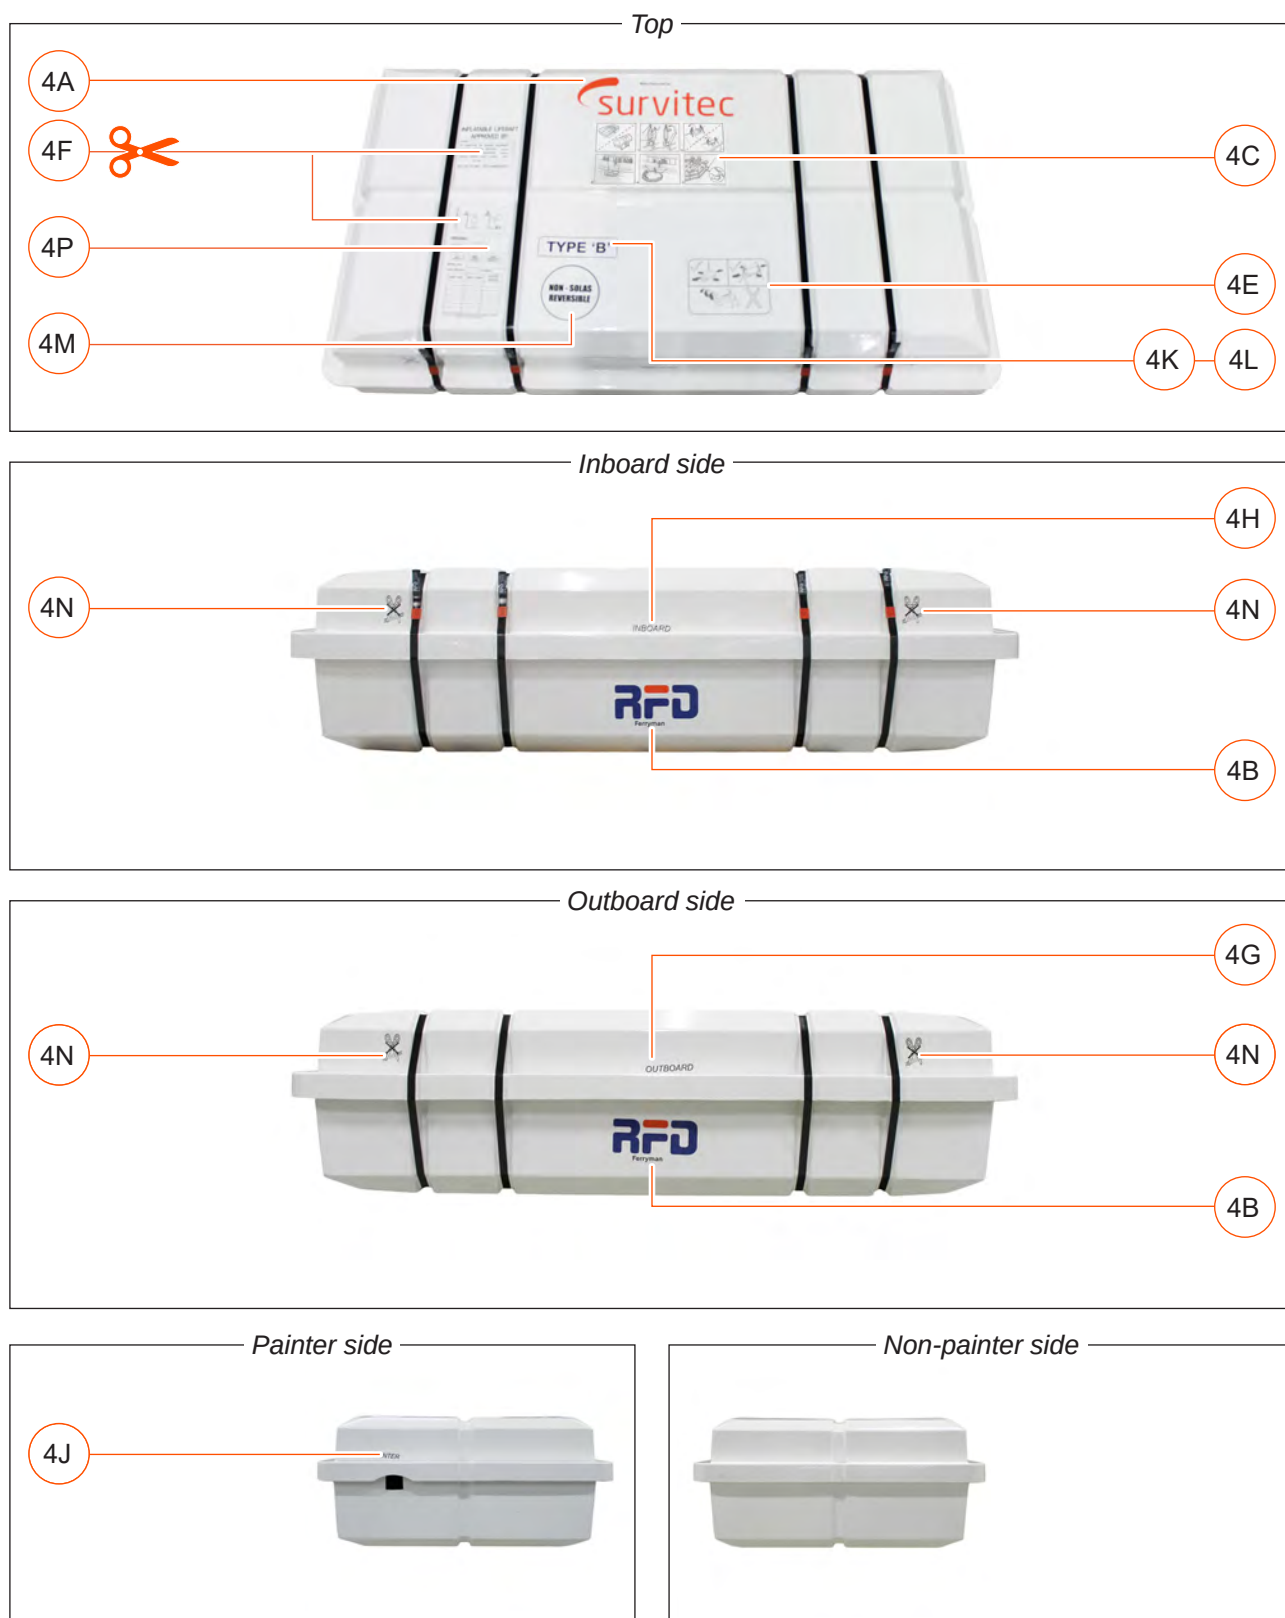

Figure 34
- Mk 16 size 2. Refer to **Figure 34** for label positions.